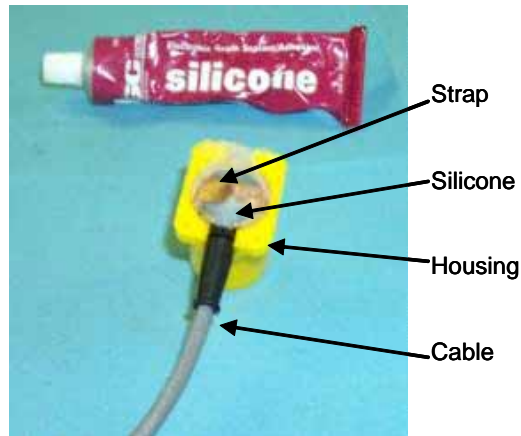

Figure 120. Silicone-filled housing.
5. Place the geophone in the geophone housing and fill the internal area with electronics-grade silicone (figure 120). Install the strap.